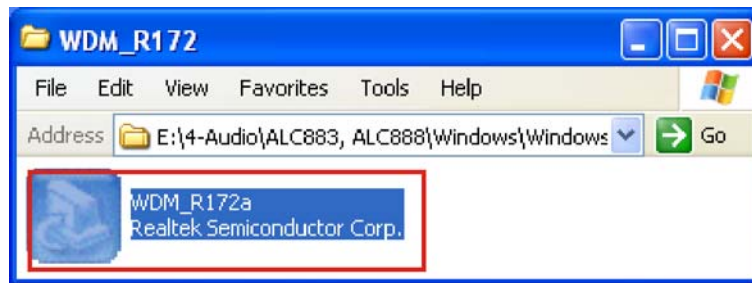

Figure 6-21: Audio Setup File
Step 2: Browse to the audio setup file directory (**Figure 6-21**).